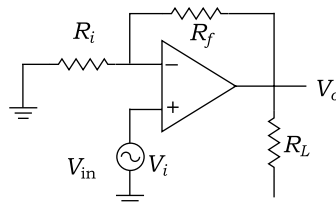

Fig. 6.51
29. Closed loop gain of the amplifier using OPAMP is shown in Fig. 6.51 is